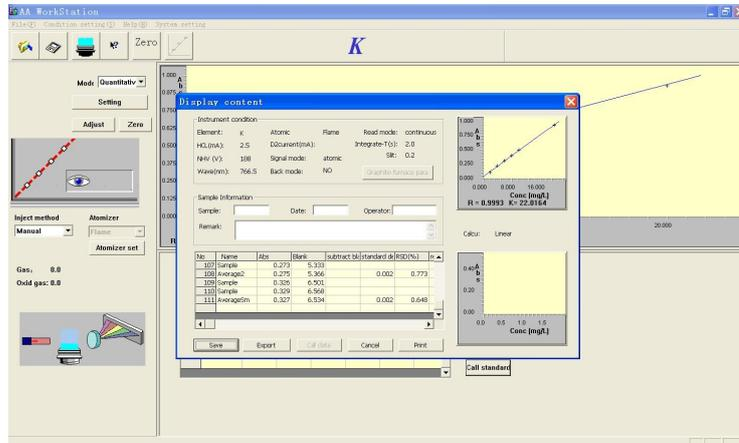

Figure 7-3
2. Select the file to be opened. Press "Open" to obtain the saved data, as shown in Figure 7-3, and then you can print the data.